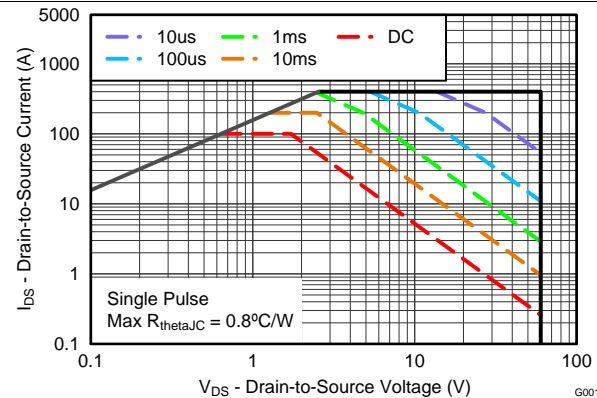

Figure 10. Maximum Safe Operating Area
• Updated the safe operating area in <a href="#">Figure 10</a> . ....	6